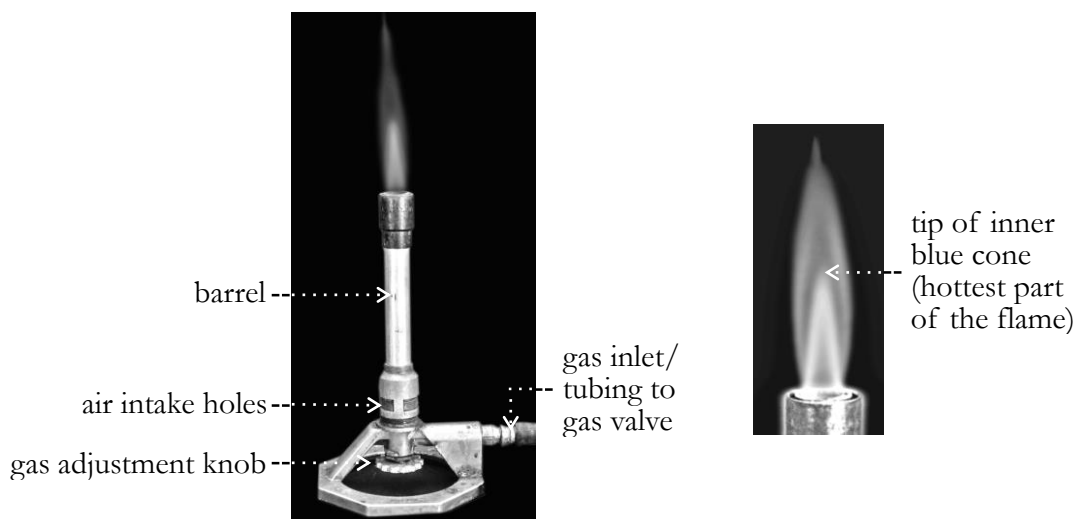
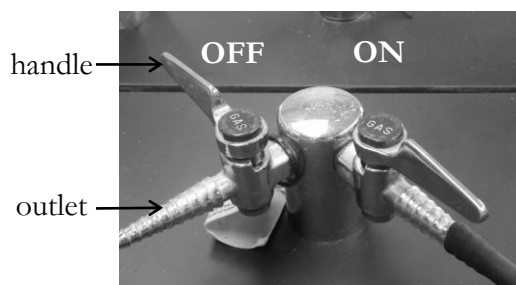

Figure 1. The Bunsen burner
Figure 2. The gas valve
1. Figures 1 and 2 show a Bunsen burner and a bench gas valve, respectively. Connect the rubber tubing from the gas inlet of the Bunsen burner to the outlet of the gas valve. Make sure the gas valve is off, with the handle of the valve perpendicular to the outlet, as shown in the gas valve to the left on Figure 2. The gas valve should always be off when the burner is not lit.
3. Turn the bench gas valve on by rotating the handle so it is parallel to the outlet as shown in the gas valve to the right on Figure 2.
6. Rotate the barrel to open the air holes to intensify the flame and change its color to blue. The hottest part of the flame is the inner blue cone (see Figure 1).